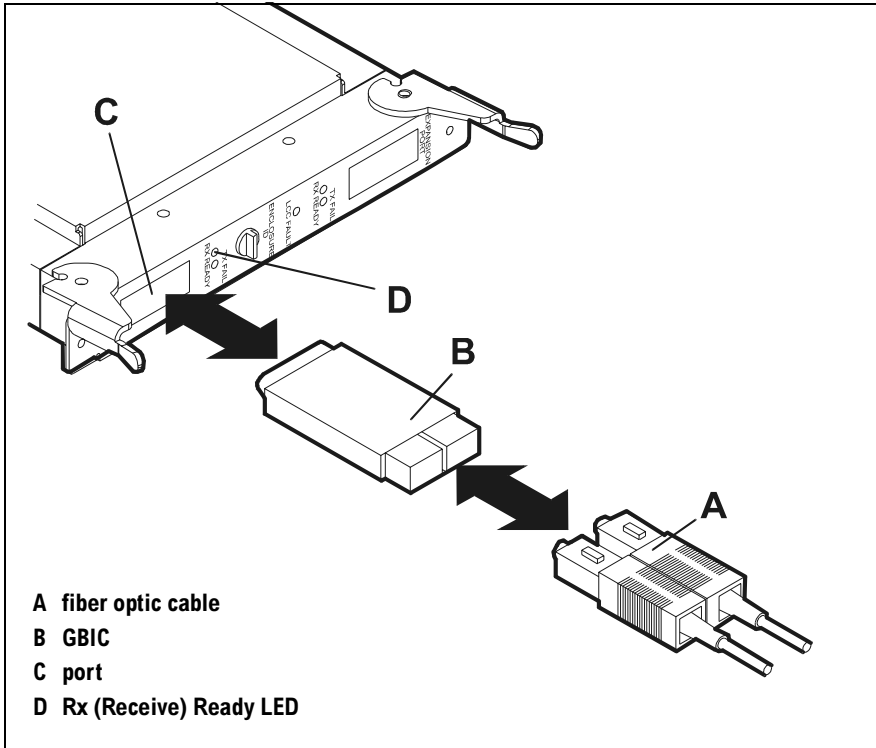

Figure 44 GBIC Removal and Replacement
1. Unplug the fiber optic connector (A in Figure 44) from the GBIC.
2. Unlatch and remove the GBIC (B) from the LCC. The GBIC should pull out easily.
3. Insert the replacement GBIC, pins first, into the metal port slot (C). If the GBIC resists insertion, it may be upside down.
4. Plug in the cable (A), matching top and bottom with the GBIC.
5. Verify that the Rx Ready LED (D) is green. If not, refer to chapter 4, *Troubleshooting*.